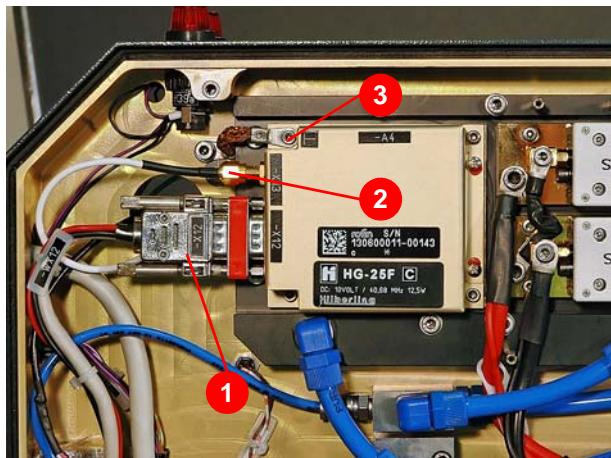

Figure 7.112 Removal of the HG-25
2. Disconnect the connecting plug -X12 (1) (Figure 7.112), HF line -X13 (2), and ground line (3).